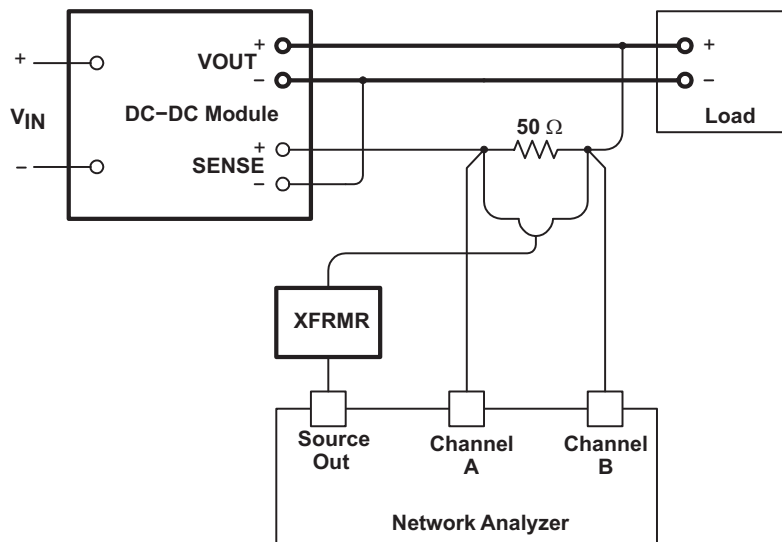
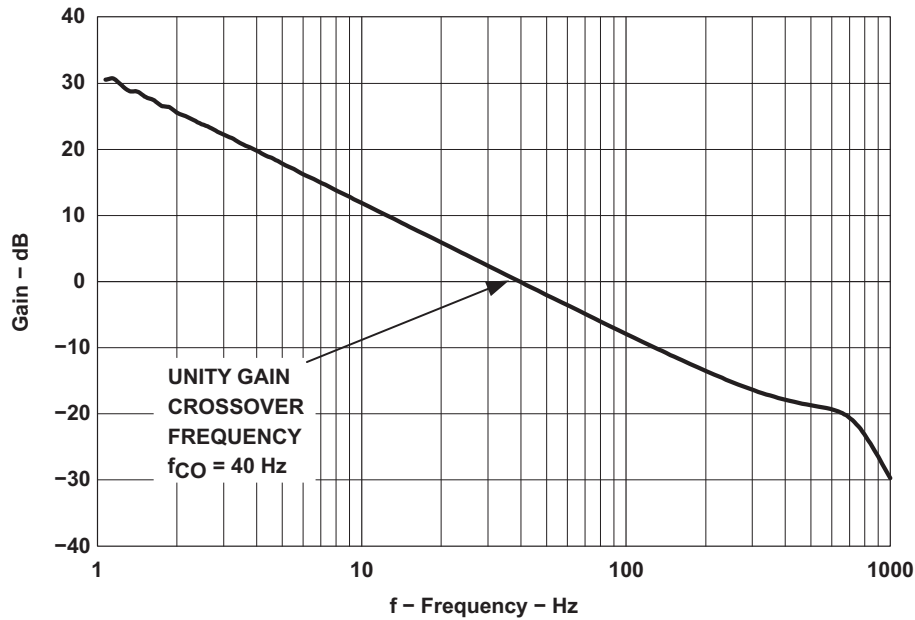

Figure 7. Unity-Gain Crossover Frequency Measurement Connection Diagram
Figure 8. Power Module Bode Plot
Using the configuration in Figure 7, measure the unity-gain crossover frequency of the power modules to be paralleled. A typical resultant bode plot is shown in Figure 8.
The total load-share loop unity-gain crossover frequency,  $f_{CO}$ , must be set at least one decade below the measured crossover frequency of the paralleled modules previously measured,  $f_{CO(module)}$ . (See Figure 8) Compensation of the transconductance error amplifier is accomplished by placing the compensation resistor,  $R_{EAO}$ , and capacitor,  $C_{EAO}$ , between EAO and GND. The values of these components is determined using Equation 8 and Equation 13.
- $G_{MODULE}(f_{CO})$  is the measured value of the gain from Figure 8, at the desired crossover frequency. (12)